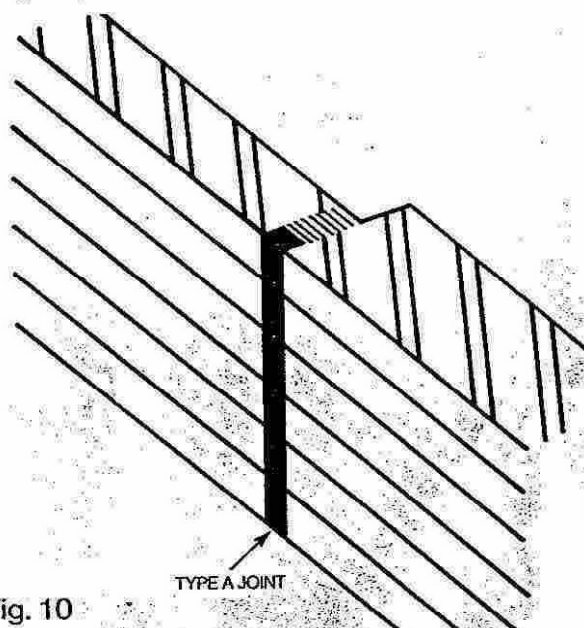

Fig. 10
- (a) The thinner section of wall should not be overstressed. If it is, it should be thickened. Fig. 10.